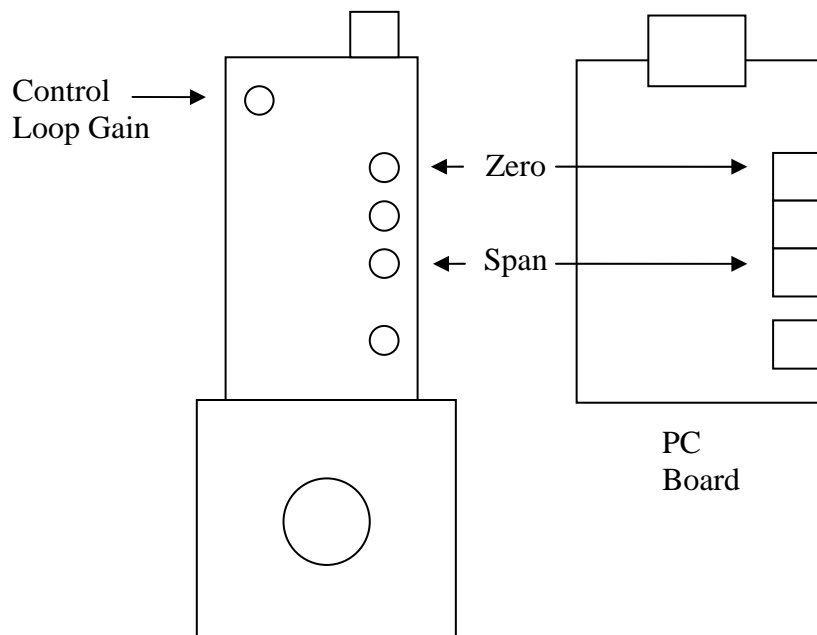

Figure 4-2
2. Completely shut off the flow and wait for 2 minutes. For the standard 0 - 5 VDC output, adjust the zero potentiometer located on the lower inlet side of the flow meter (see Figure 4-2) until the meter indicates zero. For the optional 4 - 20 mA output, adjust the zero potentiometer so that the meter indicates slightly more than 4 mA, i.e. 4.03 to 4.05 mA. This slight positive adjustment ensures that the 4 - 20 mA transmitter is not in its cut-off region. The error induced by this adjustment is approximately 0.3% of full scale.
4. Perform this step only if a calibrated reference flow meter is available. Adjust Span pot (see Figure 4-2) until the indicated flow reads full scale (5.00 VDC or 20 mA) and the reference meter/controller reads the desired full scale flow rate.